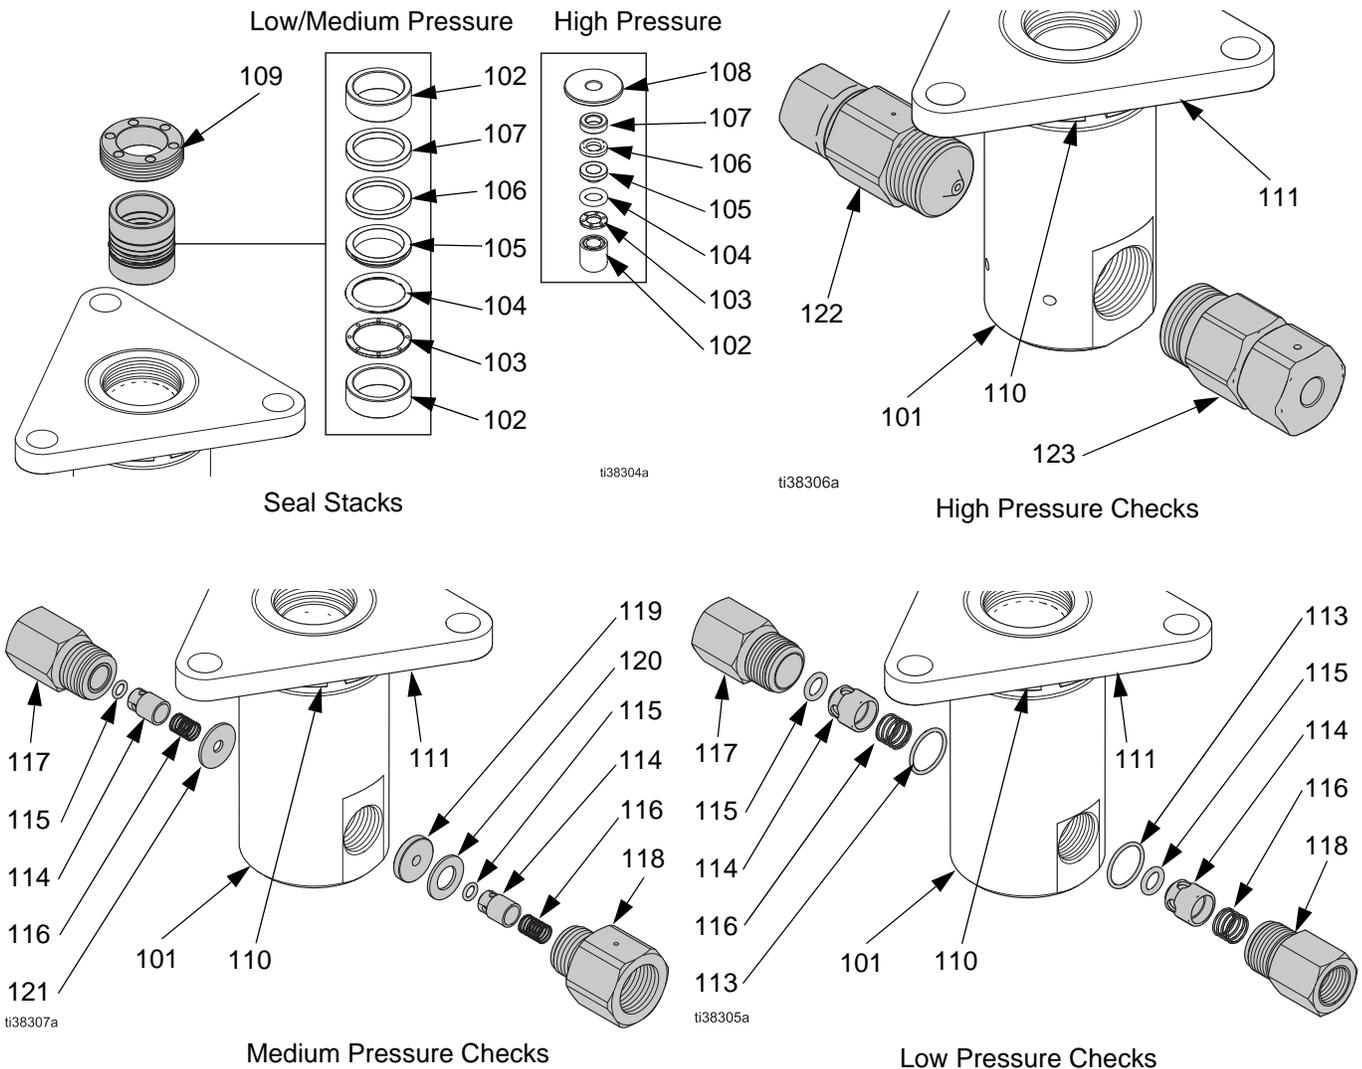

FIG. 3
1. Remove the packing nut (109) from the top of the fluid cylinder (101). Do not remove either the lower bracket (111) or locking ring (110).
4. **Medium-pressure pumps only.** Remove the o-rings (115), compression springs (116), and check poppets (114).
5. **Low-pressure pumps only.** Remove the o-rings (113 and 115), compression springs (116), and check poppets (114). Inspect for damage and wear, and replace as necessary.
NOTE: Assuming the orientation shown in FIG. 3, and with the point of lower bracket (111) pointing to the front of the pump when installed, the inlet port will be to the left and the outlet port to the right.
6. **Low- and medium-pressure pumps only.** Install the small o-ring (115) onto the check poppet (114), then install the poppet (115) and compression spring (116) into the inlet check housing (117), as shown.
7. **Low-pressure pumps only.** Install the large o-ring (113) into the inlet port of the fluid cylinder (101), then install the inlet check housing (117).
8. **Medium-pressure pumps only.** Install the spacer (121) into the inlet port of the fluid cylinder (101), then install the inlet check housing (117).
9. **Low- and medium-pressure pumps only.** Install the small o-ring (115) onto the check poppet (114), then install the poppet (114) and compression spring (116) into the outlet check housing (118), as shown.
10. **Low-pressure pumps only.** Install the large o-ring (113) into the outlet port of the fluid cylinder (101), then install the outlet check housing (118).
11. **Medium-pressure pumps only.** Install the spacers (119 and 121) into the outlet port of the fluid cylinder (101), then install the outlet check housing (118).
13. Install the packing nut (109) with a medium strength thread locking compound, and torque to 5-10 ft-lbs (7-14 N•m). The packing nut (109) should be flush with the surface of the fluid cylinder (101).